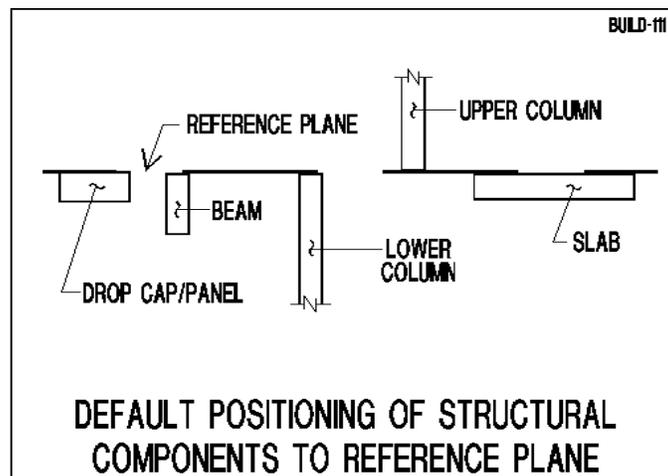

Figure 4.1-1
Each floor level is modeled together with the supports immediately below and above it. The supports can be columns, walls, springs, points or lines. Soil supports are treated separately in the **ADAPT-MAT User Manual**. The geometry of a floor is defined with respect to a horizontal plane. The distances from the top of different parts of the floor to this horizontal plane determine the changes in the elevation of the floor, if any. This horizontal plane is referred to as the *Current Plane*. It is also referred to as the *Current Reference Plane*. **Figure 4.1-1** shows an example of a current reference plane and the default positioning of several structural components with respect to this reference plane. For an example, note that the top of the beam and the drop cap are lined up with the current reference plane. When a structural component, such as a slab region, does not lie at the location shown, it has to be moved to its correct position. This is done using the “offset” feature of the program. The offset feature is described later in this document.
- Establish Component Connectivity. The default position of the structural components with respect to the current plane is shown in Fig. 4.1-1. As a result, a lower column will have an overlap with the slab, since both of them are adjusted to line up with the reference plane. However, once created, a structural component can be automatically adjusted by the program to its natural position. For example, the top of a column below a slab will be automatically moved to the soffit of the slab. Hence, there will be no overlap or interference between the top of a column and slab region. This is achieved if you click on the *Establish Component Connectivity* from *Model* → *Preprocessing*.